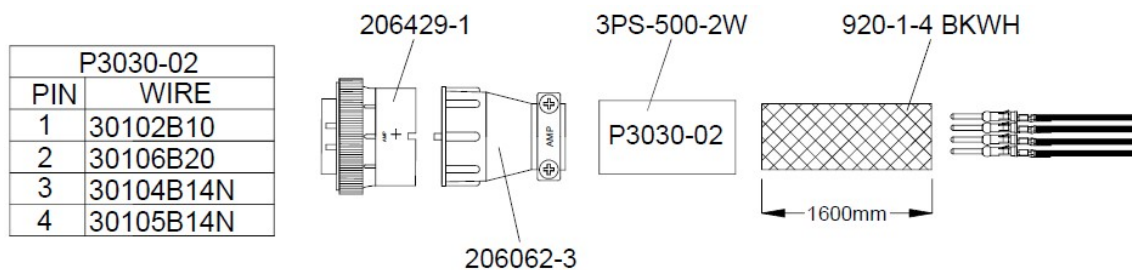

Figure 26: Fuselage P3030-02 Plug
12.2.1.4 Install wires 30102B10, 30106B20, 30104B14N and 30105B14N into the P3030-02 Plug, according to Figure 26.